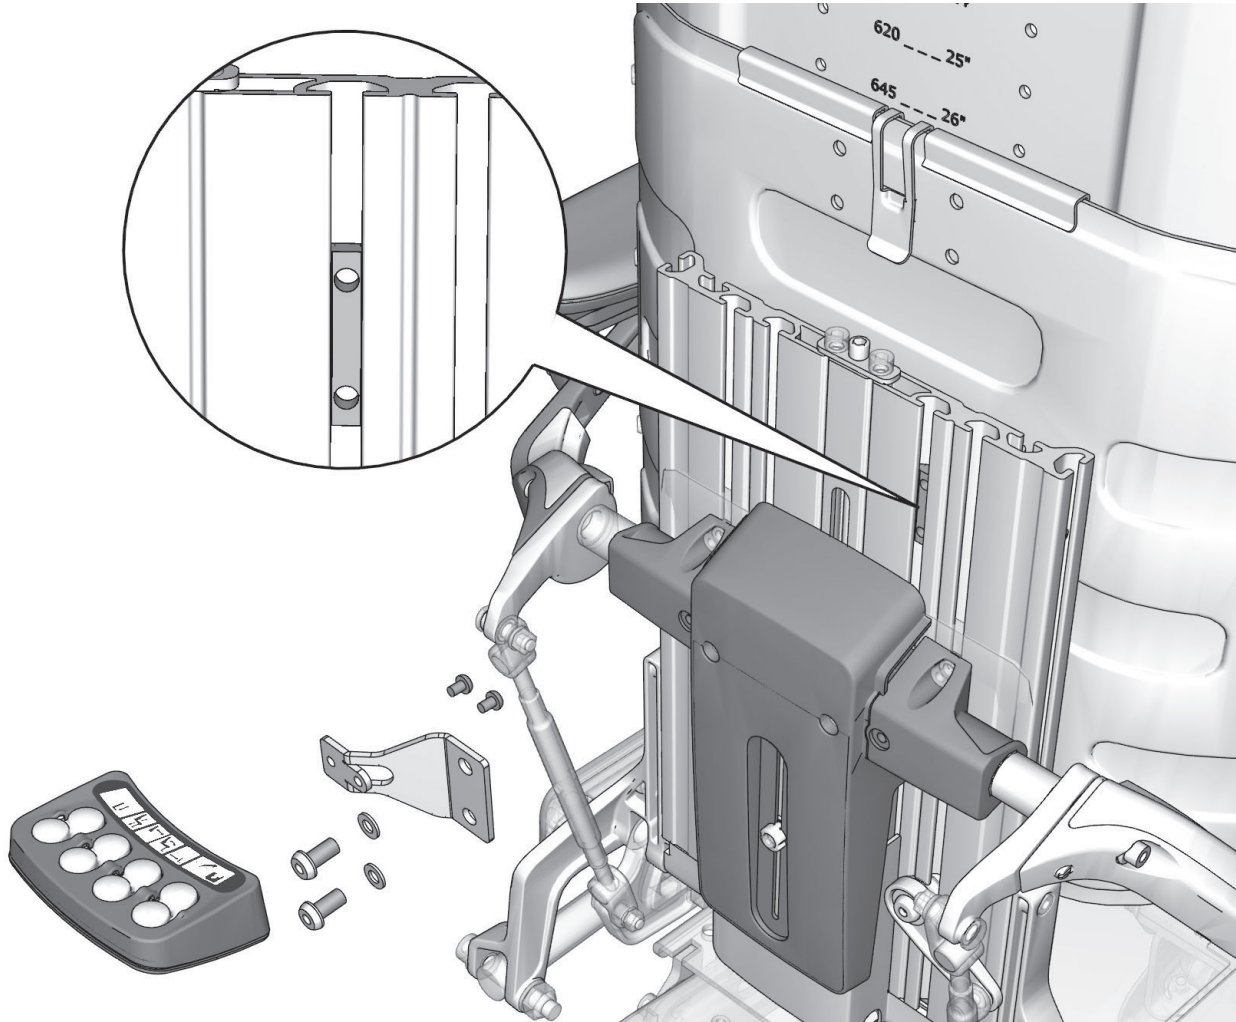

Fig. 2.
2. Install button box on the bracket with two screws M4x6. Remember that determine which way the button box to be mounted first, right or left. Fig. 2.
3. Install slotted nut on the bracket with screw M6x12 with washer 6.4 x12x1, 6, Screw the screw just a few laps. Fig. 2.